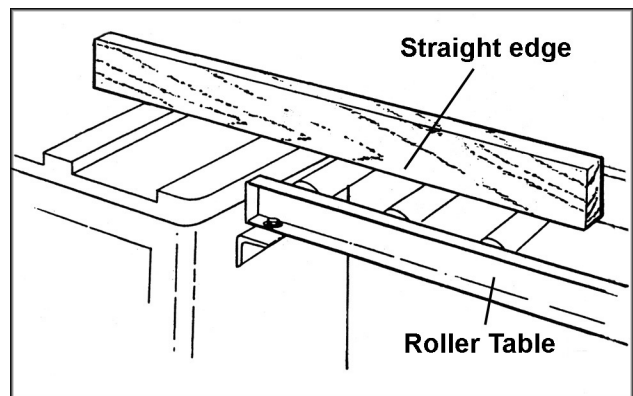

FIGURE 14
2. Raise the blade guard and keep it raised. Place the board, straight edge down, on the saw table surface and allow it to extend to the second or third roller of the roller table (Fig. 14).